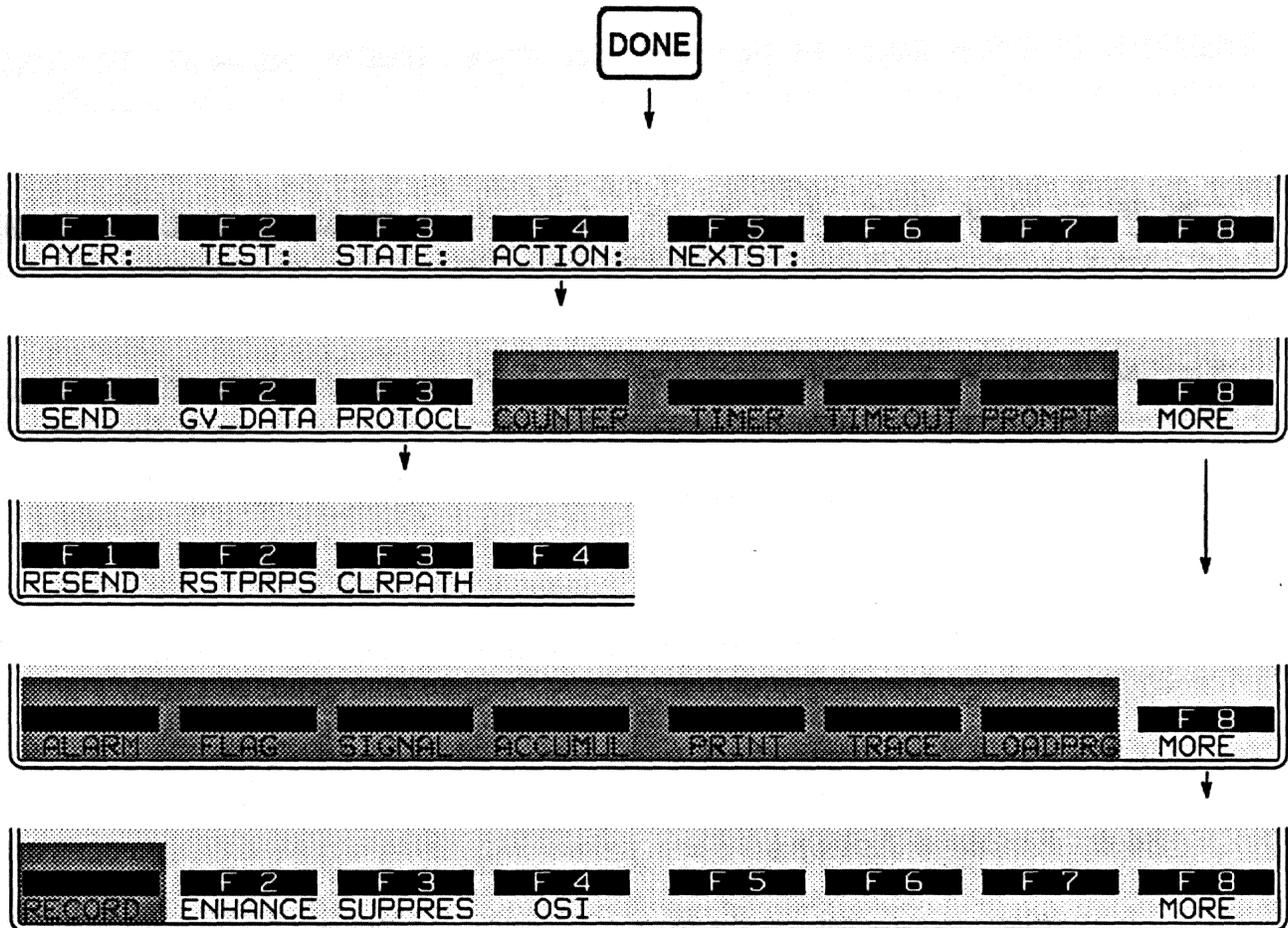

Figure 34-21 Action softkeys specific to X.25 Layer 3.
When you have completed a block of conditions in a Protocol Spreadsheet test at Layer 3, press **Done**, then **F4** (ACTION:), to access the set of actions that can be taken as a result of the block of conditions coming true. The set of actions that are specific to the X.25 Layer 3 personality package are shown in the four lower racks of softkeys in Figure 34-21. Except for **ENHANCE** and **SUPPRES**, the actions shown have meaning only when the **INTERVIEW** is emulating DTE or DCE, and not when it is monitoring the line passively.
GIVE_DATA is the **[F2]** action on the first rack of action softkeys (refer to Figure 34-21). This action takes the data field from a received data packet and passes it up to Layer 4 along with an N_DATA IND primitive. (See Section 30, OSI Primitives on the Protocol Spreadsheet.) In an emulate mode, data normally arrives up at Layer 4 via GIVE_DATA actions at Layer 3.
RSTPRPS is the **F2** action on the rack of action softkeys below PROTOCL. (Refer again to Figure 34-21.) The sequence-number fields in data packets and supervisory packets can be reset by this Protocol Spreadsheet action. Sequence numbers are not reset *automatically* during a test by any packet that is sent or received.
Each call that is established in emulated mode is assigned to one of nine independent "paths," each with its own P(R) and P(S) numbering. Thus nine LCNs may be active at once. The CLRPATH action (Figure 34-21) allows you to return a path to the pool to be used again.